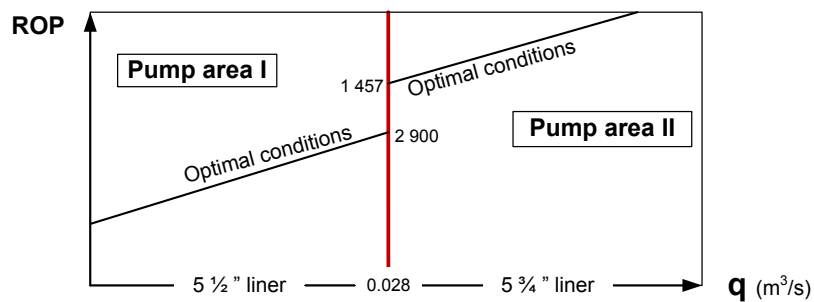
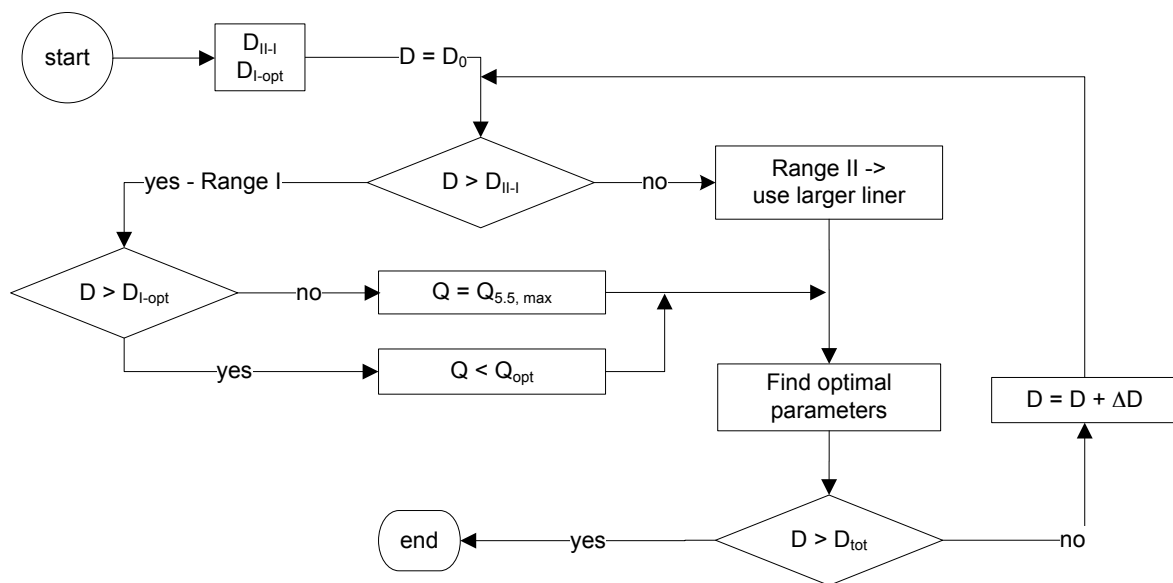

Figure 4-7.1: Boundary area between pump area II and I
Figure 4-7.2: Flow chart of estimating hydraulic parameters while in the boundary zone between the pump area ranges.
a) Find first what working area prevails in the boundary zone between pump area II and I, which are valid as indicated in Figure 4-7.1. Area II ends with the 5.75" liner when $q_{\max, 5.5}$ is reached:
b) In Figure 4-7.1 we see the division between the two pump areas. A preliminary solution of how to distinguish between them is given in Figure 4-7.2, its upper part.